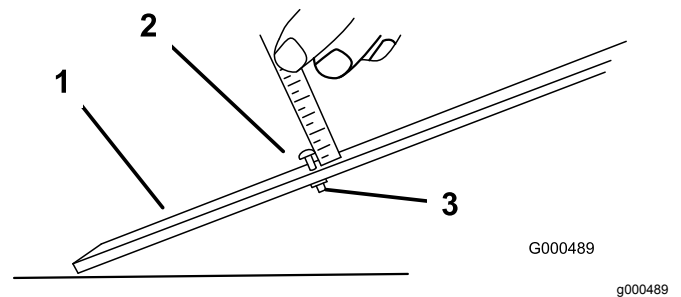

**Figure 17**
1. Loosen the locknuts securing the height-of-cut arms to the cutting-unit side plates (Figure 17).